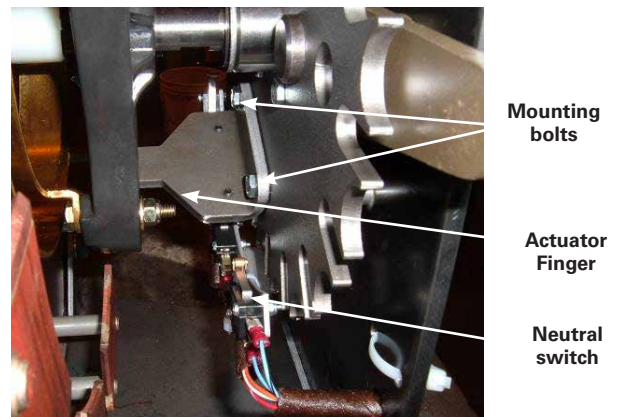

Figure 4.
4. Remove the two bolts that mount the actuator finger with a 7/16 inch socket wrench. Remove the actuator finger (refer to Figure 4). Save the bolts for re-assembly.
5. Remove the two screws holding the neutral switch subassembly with a 9/64 inch hex wrench. Refer to Figure 4.